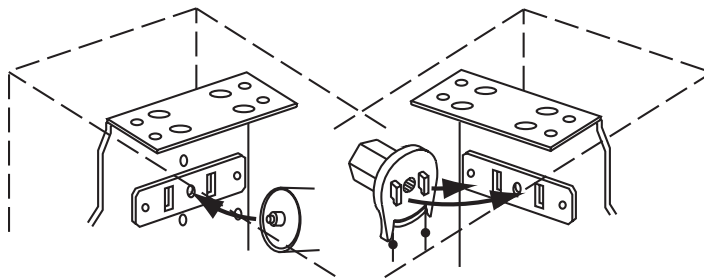

Figure 6
- ① Insert spring-loaded pin of upper roller into pin-end bracket. Supporting pin-end bracket with your free hand, push roller/fabric assembly toward bracket to compress spring-loaded pin, and slip the clutch end tabs into slots on bracket (see Fig. 6).